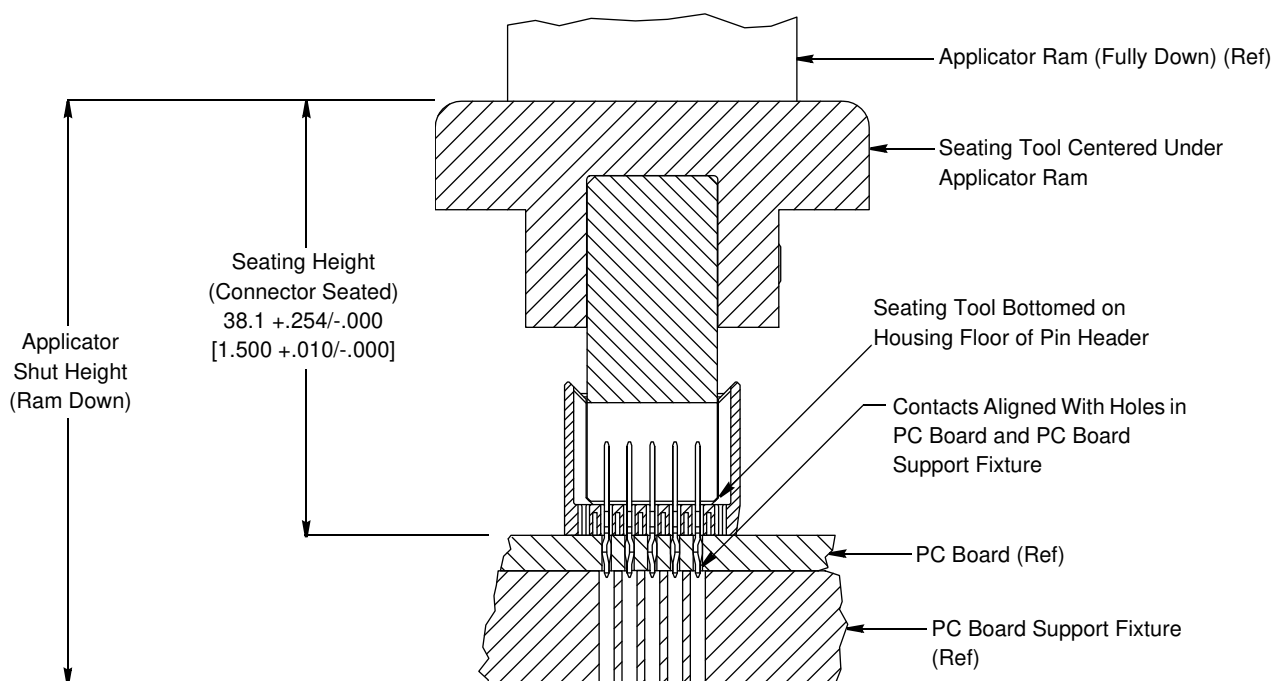

Figure 2
1. Set the seating height to the dimension shown in Figure 2 (applicator shut height will equal the seating height PLUS the combined thicknesses of the pc board and pc board support fixture).